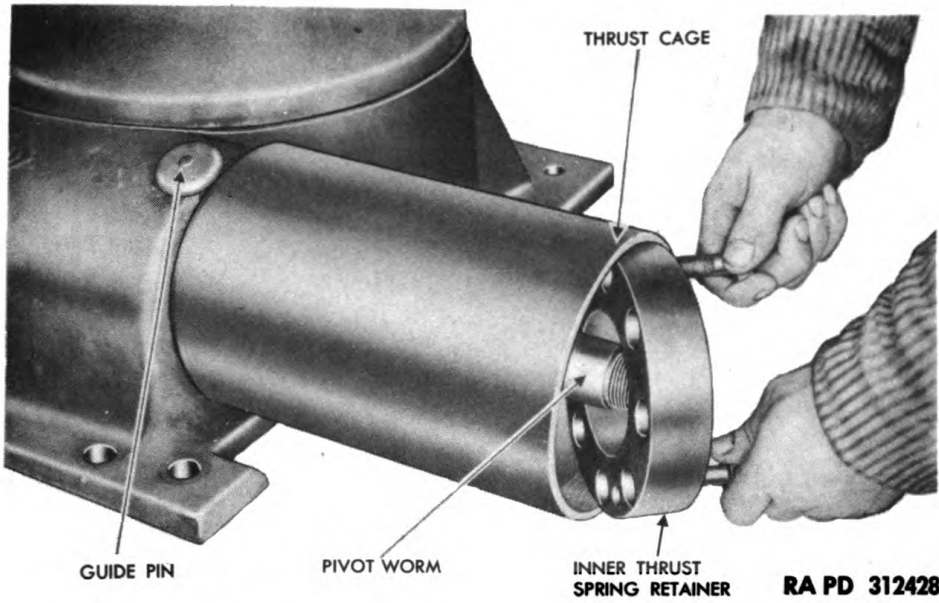

Figure 33 - Removing Inner Thrust Spring Retainer
c. Remove Thrust Cage. The outer spring thrust retainer has two tapped holes for ½-inch-20 cap screws (fig. 41). Screw in two cap screws and use as handles for pulling out retainer. This will remove the outer thrust ball bearing. Lift out thrust spring and thrust spring stop (fig. 32). Again using two ½-inch-20 cap screws, lift out the inner spring thrust retainer (fig. 33). Using a 10-inch extension and socket, remove eight 7/16-inch cap screws and lock washers attaching the thrust cage to the boom pivot base. Lift off spring cage.
f. **Install Thrust Cage and Spring.** Use a new gasket between the boom pivot and boom pivot thrust cage. Install cage and eight $\frac{7}{16}$ -inch spring cage cap screws and lock washers, and tighten securely. Install two $\frac{1}{2}$ -inch-20 cap screws on the smooth side of the inner thrust spring retainer to use as handles for installing the retainer (fig. 33). The counterbored side of the retainer enters the thrust cage first (fig. 33). Set the inner thrust spring retainer on its locating dowel. Slide the thrust spring stop onto the worm, and install the thrust spring. Set the outer thrust spring retainer into position with the smooth side of the retainer toward the spring, and the relieved side toward the driven end of the worm (fig. 41). Install the outer thrust bearing and slide it onto the shaft, aligning the keyway in the bearing with the locating dowel on the worm (fig. 41).